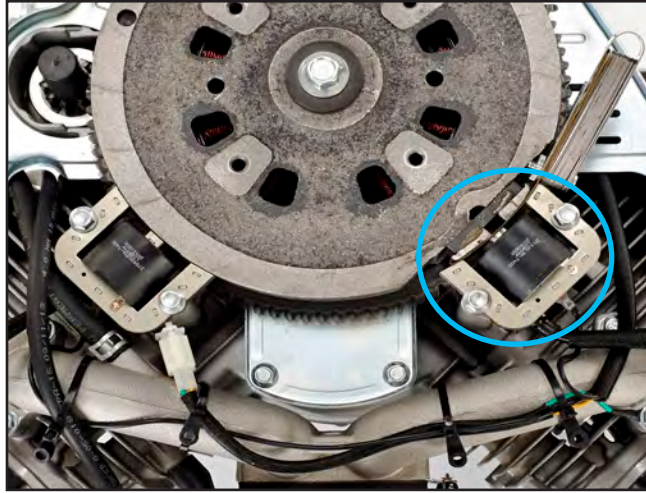

Figure 33
1. Install the ground wire to male terminal on ignition coil (Figure 33).